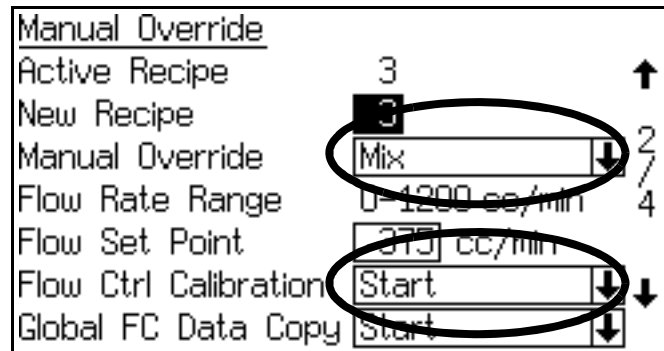

FIG. 84. Manual Override Screen
4. Go to the **Manual Override Screen** (see FIG. 84). Set Manual Override to Mix, and set Flow Ctrl Calibration to Start.